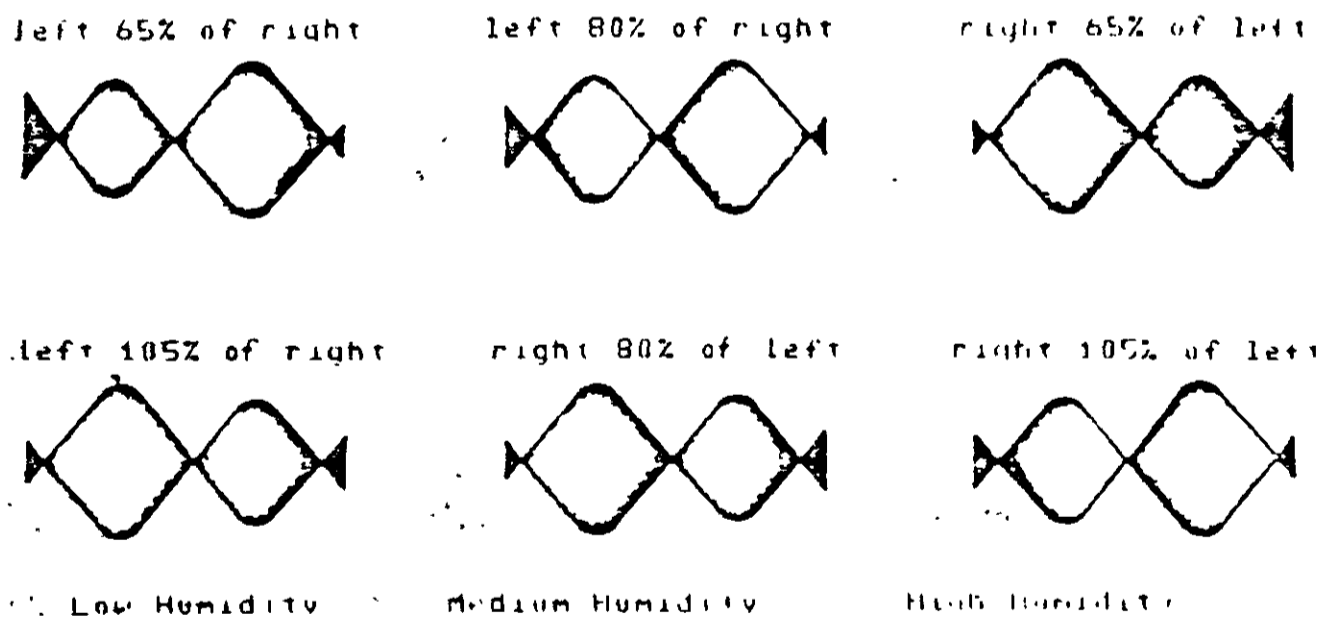

Figure 2-12. Head Radial Alignment Waveforms
- f. Compare the waveform with that shown in Figure 2-12. Head Radial Alignment Waveforms. Use the following limits when checking the waveforms.